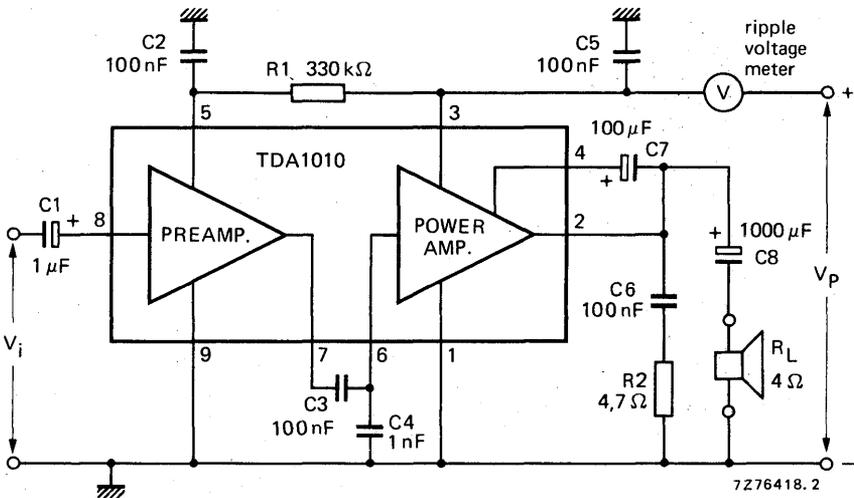

Fig. 3 Test circuit.
Fig. 4 Output power of the circuit of Fig. 3 as a function of the supply voltage with the load impedance as a parameter; typical values. Solid lines indicate the power across the load, dashed lines that available at pin 2 of the TDA1010. $R_L = 2 \Omega$ (1) has been measured with an additional 220Ω bootstrap resistor between pins 3 and 4. Measurements were made at $f = 1$ kHz, $d_{tot} = 10\%$, $T_{amb} = 25^\circ\text{C}$.
Total harmonic distortion in the circuit of Fig. 3 as a function of the output power with the load impedance as a parameter; typical values. Solid lines indicate the power across the load, dashed lines that available at pin 2 of the TDA1010. $R_L = 2 \Omega$ (1) has been measured with an additional 220Ω bootstrap resistor between pins 3 and 4. Measurements were made at $f = 1$ kHz, $V_p = 14.4$ V.
Fig. 7 Total power dissipation (solid lines) and the efficiency (dashed lines) of the circuit of Fig. 3 as a function of the output power with the load impedance as a parameter (for $R_L = 2\Omega$ an external bootstrap resistor of 220Ω has been used); typical values. $V_p = 14,4\text{ V}$; $f = 1\text{ kHz}$.